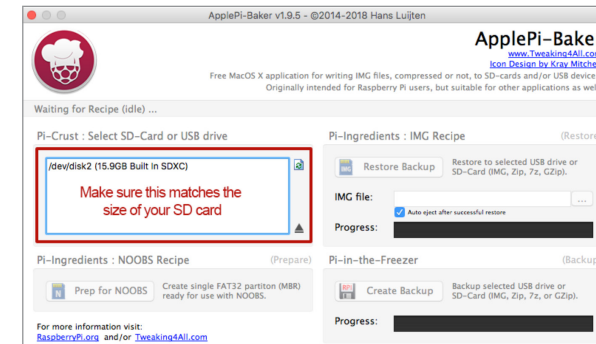

Figure 4-5. ApplePi-Baker - Crust selection.
6) Launch ApplePi-Baker and enter your admin password (this is required each time you launch the app). After you've entered your password, the app's main screen will come up. On the left side, in the Pi-Crust section, select the SD card that you inserted (figure 4-5).